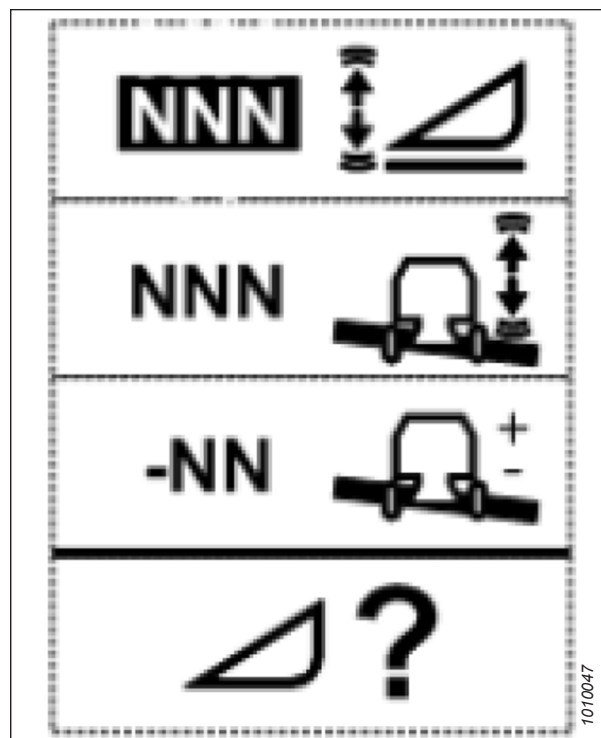

Figure 7.60: Height Sensitivity Change Page
1. Use HEADER SETTINGS key (A) to display the HEADER SENSITIVITY CHANGE page as shown in Figure 7.60, page 211.
2. Use UP key (B) or DOWN key (C) to adjust the highlighted item. The height sensitivity setting range is 0 (least sensitive) to 250 (most sensitive) in increments of 10.